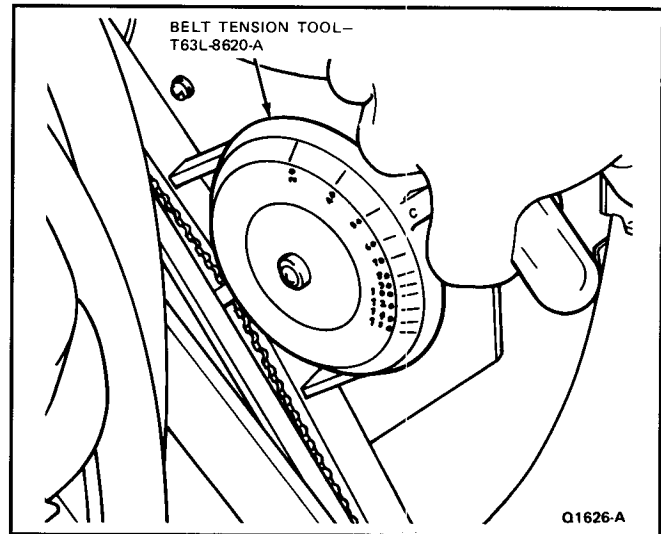

FIG. 2 Checking Belt Tension With Gauge
1. Use belt tension gauge Tool T63L-8620-A or equivalent as shown in Fig. 2.
- f. Check belt tension (Fig. 2).